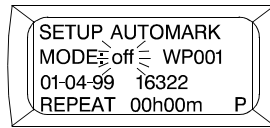

Figure 25. Mode Off Display
3. Press the up arrow key (figure 1, item 2) or down arrow key (figure 1, item 3) until off is flashing for MODE (figure 25).